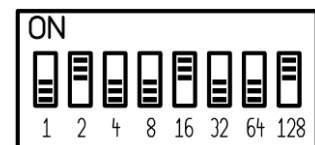

Fig. 2:
Set the address of the JDB8410 module using the Dual Inline Package (DIP) switches on the face of the JDB8410 module. The address equals the sum of the numbers set to ON. For example, if the second (2), the fifth (16), and the eighth (128) DIP switches are set to ON, the device address is 146 (2 + 16 + 128 = 146). See Figure 2.